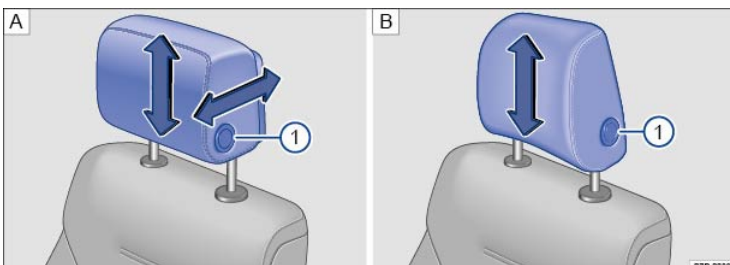
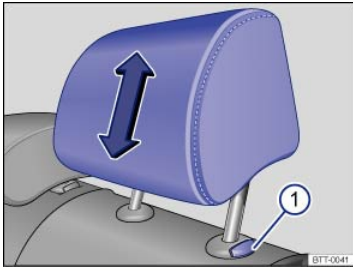

Fig. 40 Adjusting the front head restraints: Version and .
Fig. 41 Adjusting the rear head restraints.
- Push the head restraint up in the direction of the arrow or down when the button ⇒ Fig. 40① or ⇒ Fig. 41① is pressed ⇒ .